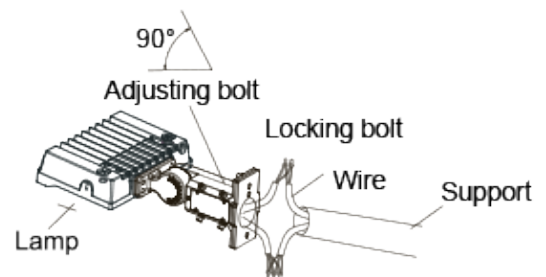

Figure 4.2
Step 2: Loosen the four bolts on A&D bracket, connect the wires correctly, and pull the wires into the poles. (Figure 4.2)
Notice: Adjustable angle is 0-90° (Figure 4.2)